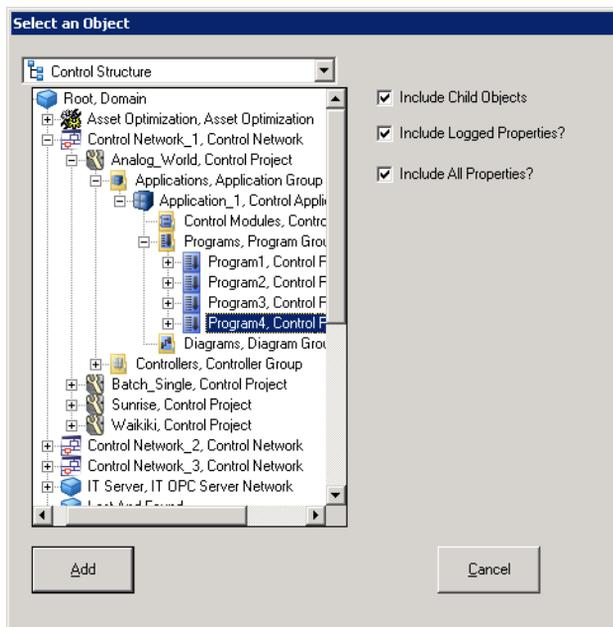

Figure 213. Selecting the Object
7. Check the **Include child objects**, **Include Logged Properties**, and **Include All Properties** check boxes, Figure 213. This tells the importer to include in the search all child objects under the selected object.